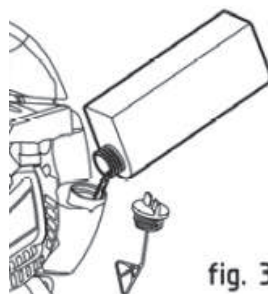

fig. 3
- Refuel without filling the tank to the rim (Fig. 3).